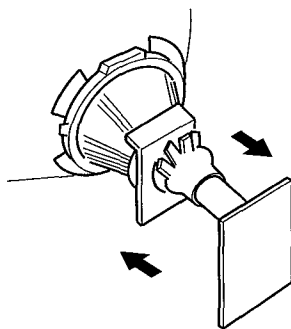

Fig 1
- 5 Move the deflection yoke forward, and adjust so that the entire screen becomes green (Fig 1)